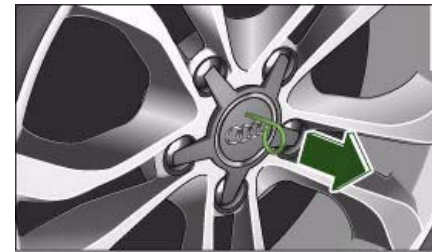

Fig. 229 Changing a wheel: Removing a hub cap
- Pull off the **hub cap** ⇒ fig. 229. ■
- Pull off the **hub cap** ⇒ *page 251*, fig. 229.
- Insert the adapter ② completely into the wheel bolt ①.
- Fit the box spanner as far as it will go over the adapter ②.